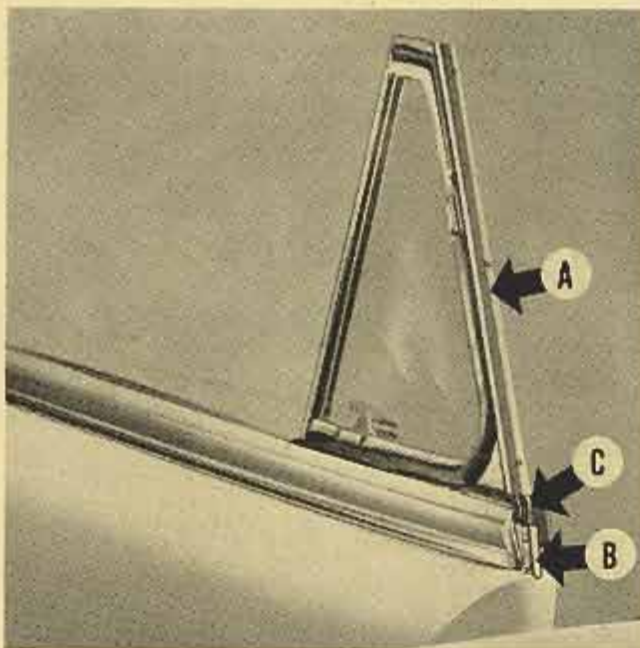

Fig. 2
3. Place the new window wing frame weatherstrip retainer with its vee directly over the forward edge of the wing frame. The flanged side of retainer is outward and the angled end should be in line and flush with the top edge of the vent window frame "A" Fig. 2. Hold the retainer in place and center punch the wing frame through the five holes in the retainer. Be sure the center punch marks are in the center of the wing frame. Drill five $\frac{3}{32}$ " holes in the forward edge of the vent window frame. Fill the retainer vee with dum-dum and attach the retainer to the wing frame
with five thread-cutting screws "A" Fig. 2. Tap the retainer lightly to squeeze out the excess dum-dum and then clean off the edges.
4. Install the short weatherstrip retainer "B", Fig. 2. The upper end laps over the end of the wing frame front weatherstrip, the lower end is in line with the door outer panel where it curves outward. Place the weatherstrip in position to align the short retainer sideways. Using the retainer as a guide, drill two $\frac{3}{16}$ " holes through the door. Pack dum-dum in back of the retainer and attach it to the door with two thread-cutting screws. Do not tighten the screws too tight so as to bend the retainer. Clean off excess dum-dum.
5. Cut a groove in the window wing front weatherstrip as shown by "C" Fig. 2. The groove can